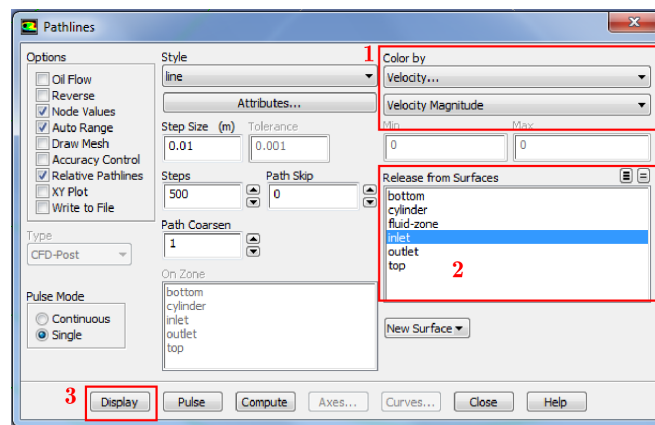

Figure 6.7: Pathlines setup options panel.
- iii) Plot flow streamlines across the cylinder. In Fluent these are referred to as Pathlines. Click "*Graphics and Animations*" → "*Pathlines*" → "*Setup*". The Pathlines options panel opens up to setup shown below in Figure 6.7. Select the line colours by velocity (1), then where the lines are released from (2) and finally Display (3).